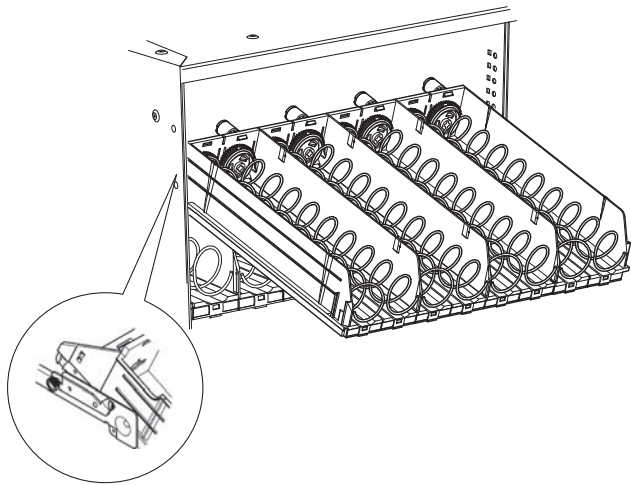

Fig. 13
- Load the products from the outside to the inside. Make sure that all spaces are filled. The product bottom must rest at the bottom of the compartment with the label facing the glassfront so that it can be recognised. The sealed edge of bags may slip beneath the spiral, thus preventing the bag from falling down. Fold the sealed edge forwards and upwards before inserting it into the spiral. Thin products can be dispensed only by using the special spacer (see fig. 13). Never insert any product that has been stored in a room at a temperature above **30°C**. **All products shall be easily insertable between the spirals. Avoid inserting any object that is too large.**